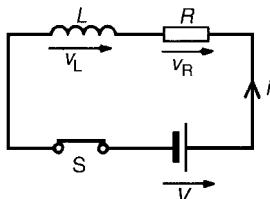

Figure 18.9
- (a) The circuit diagram for a series connected $L-R$ circuit is shown in Fig. 18.9 When switch S is closed, then by Kirchhoff's voltage law: